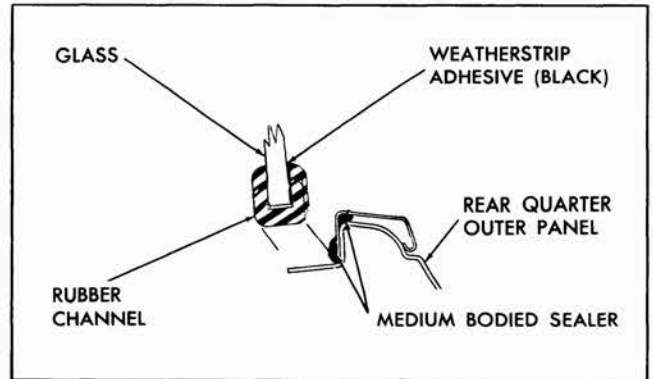

Fig. 4-14 Rear Quarter Stationary Window Sealing
4. Using a plews oiler or any other suitable applicator, apply an approved weatherstrip adhesive (black) between glass and outer wall of rubber channel completely around window. Clean off excess sealer (Fig. 4-14).